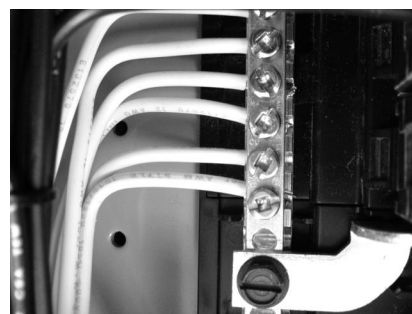

Figure 4
2. Strip approximately 5/8" from the end of the white wire. Locate the neutral bar and partially unscrew a terminal screw on the bar. Insert the stripped end of the wire into the side of the bar under the screw and retighten the screw. (Figure 4)